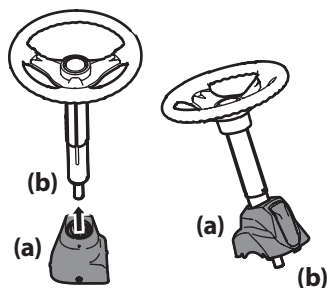

Figure 1
1. Slide the pedestal cap (a) onto the steering shaft (b) so that when the steering shaft (b) is installed on the tractor, the pedestal cap (a) will be upright as shown in Figure 1.